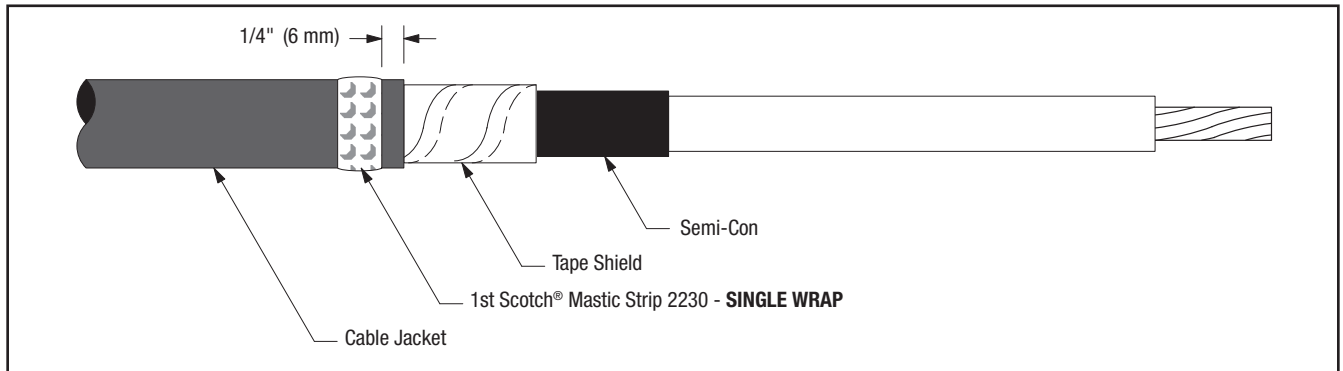

Figure 2
3.1 Select a Scotch® Mastic Strip 2230 from kit and remove white release liners. Using light tension, apply a **SINGLE WRAP** of mastic around the cable jacket 1/4" (6 mm) from cut edge (Figure 2). Cut off excess.